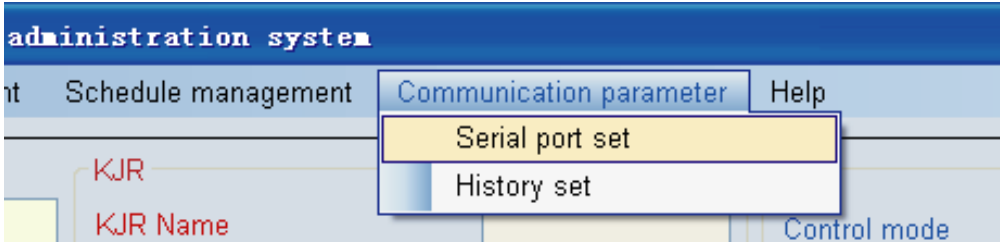

Fig.4-50
4) “Communication parameter” includes: “Serial port set” and “History set”. See Fig.4-50